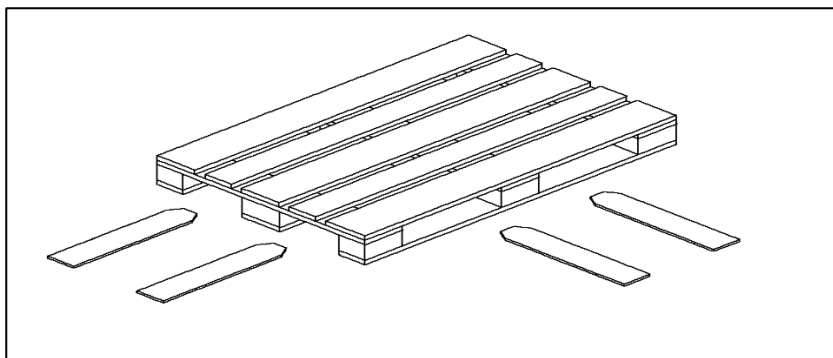

Figure 5: Picking up the load carrier
- It must be possible for a forklift to pick up the load carrier via the short or long side (see figure 5). To this end, the substructure of the load carrier must be at least 150 mm high.